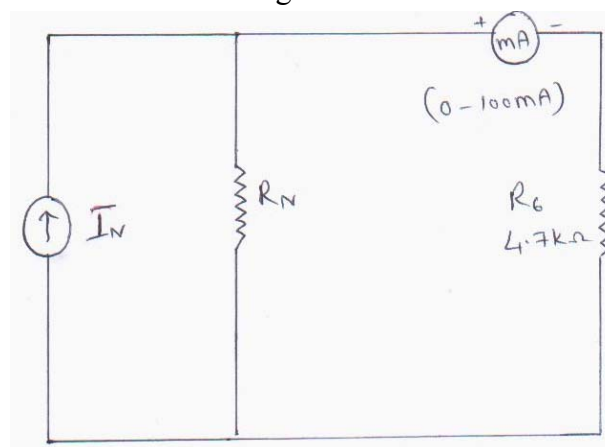
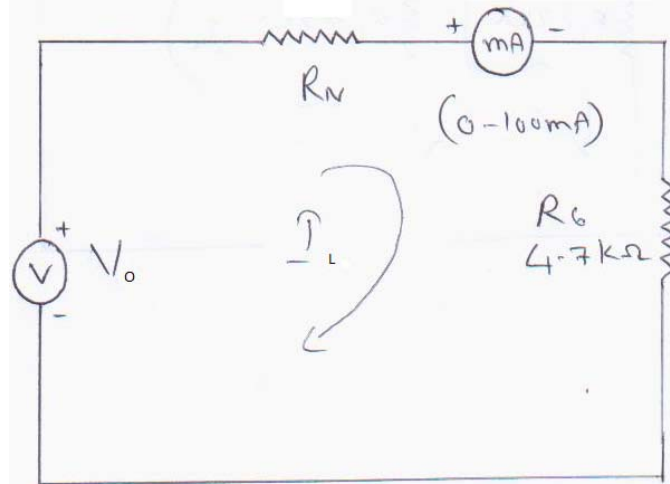

Figure 3.3
Figure 3.4
6. Now apply source transformation in the circuit diagram as shown in figure 3.3 and obtain the circuit as shown in figure 3.4.
7. Connect the circuit as shown in figure 3.4 in bread board and vary the supply voltage and note down the corresponding  $I_L$  from the ammeter.